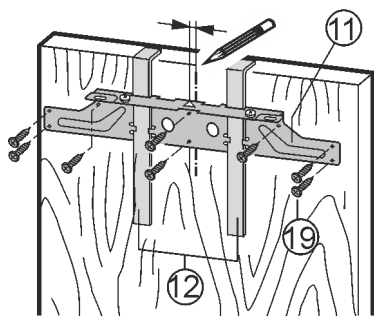

Fig. 22
- Align the crosspiece Fig. 22 (11) to the middle of the door.
- Left strip: Move the crosspiece Fig. 22 (11) 6 mm (0.24 in) to the left.
- Right strip: Move the crosspiece Fig. 22 (11) 6 mm (0.24 in) to the right.